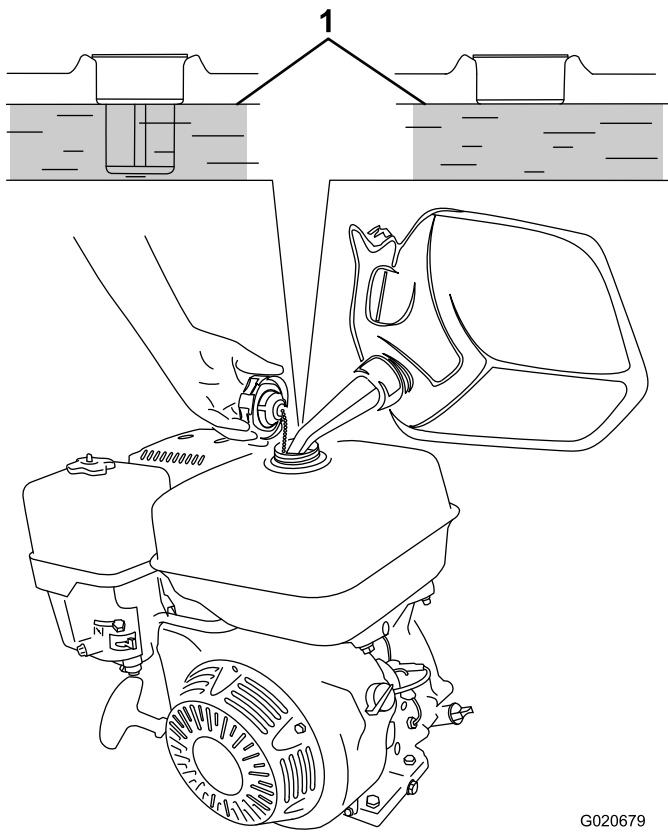

Figure 26
3. Add fuel to the fuel tank until the level is at the maximum fuel level (Figure 26).